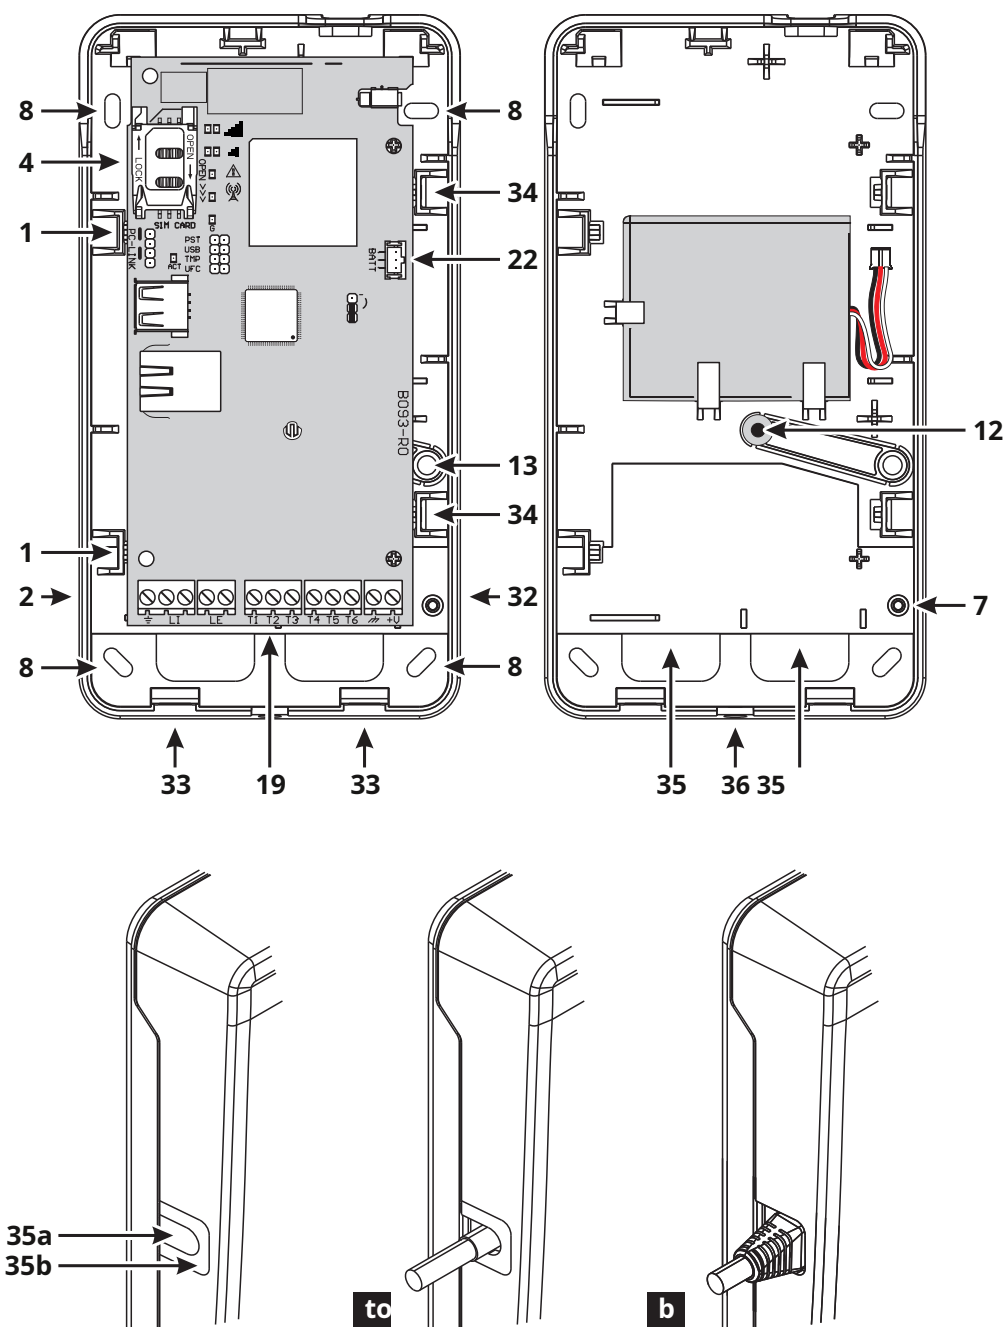

Figure 4 -Installing the communicator with housing.
The housing version must be fixed to the wall with screws and plugs (not included) as described below and shown in figure 4.
4.Place the battery as shown in figure 4.